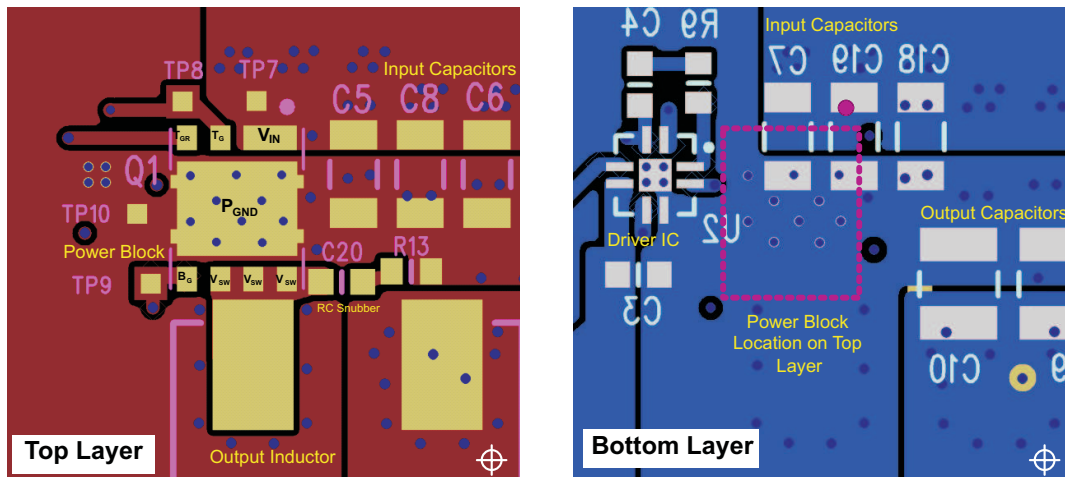

Figure 34. Recommended PCB Layout (Top Down View)
- The placement of the input capacitors relative to the power block's VIN and PGND pins should have the highest priority during the component placement routine. It is critical to minimize these node lengths. As such, ceramic input capacitors need to be placed as close as possible to the VIN and PGND pins (see Figure 34). The example in Figure 34 uses 6 \times 10- μ F ceramic capacitors (TDK part C3216X5R1C106KT or equivalent). Notice there are ceramic capacitors on both sides of the board with an appropriate amount of vias interconnecting both layers. In terms of priority of placement next to the power block, C5, C7, C19, and C8 should follow in order.
- The switching node of the output inductor should be placed relatively close to the power block VSW pins. Minimizing the node length between these two components will reduce the PCB conduction losses and actually reduce the switching noise level. In the event the switch node waveform exhibits ringing that reaches undesirable levels, the use of a boost resistor or RC snubber can be an effective way to easily reduce the peak ring level. The recommended boost resistor value will range between 1 Ω to 4.7 Ω depending on the output characteristics of driver IC used in conjunction with the power block. The RC snubber values can range from 0.5 Ω to 2.2 Ω for the R and 330 pF to 2200 pF for the C. Please refer to Snubber Circuits: Theory, Design and Application (SLUP100) for more details on how to properly tune the RC snubber values. The RC snubber should be placed as close as possible to the VSW node and PGND see Figure 34.⁽¹⁾
- Use the smallest drill size allowed in your design. The example in Figure 34 uses vias with a 10-mil drill hole and a 16-mil capture pad.